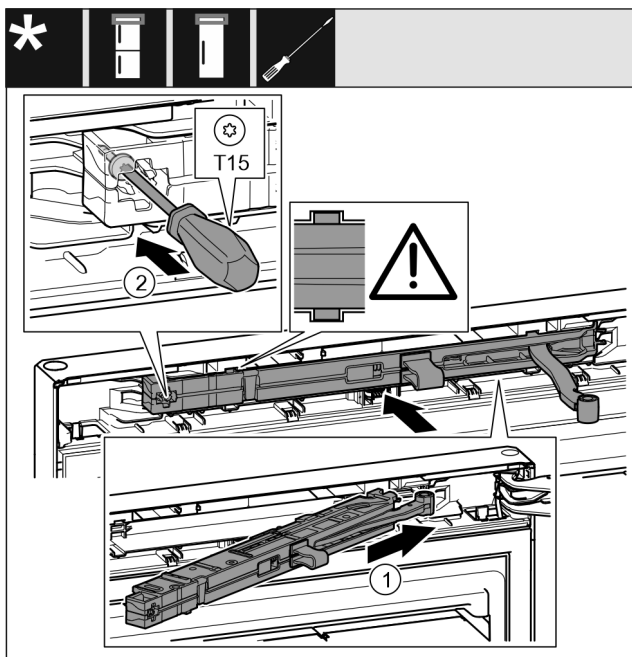

Fig. 49
- ▶ Slide the soft stop unit on the bearing bracket side at an angle into the slot as far as it will go. *Fig. 49 (1)*
- ▶ Tighten the screw with a T15 screwdriver. *Fig. 49 (2)*